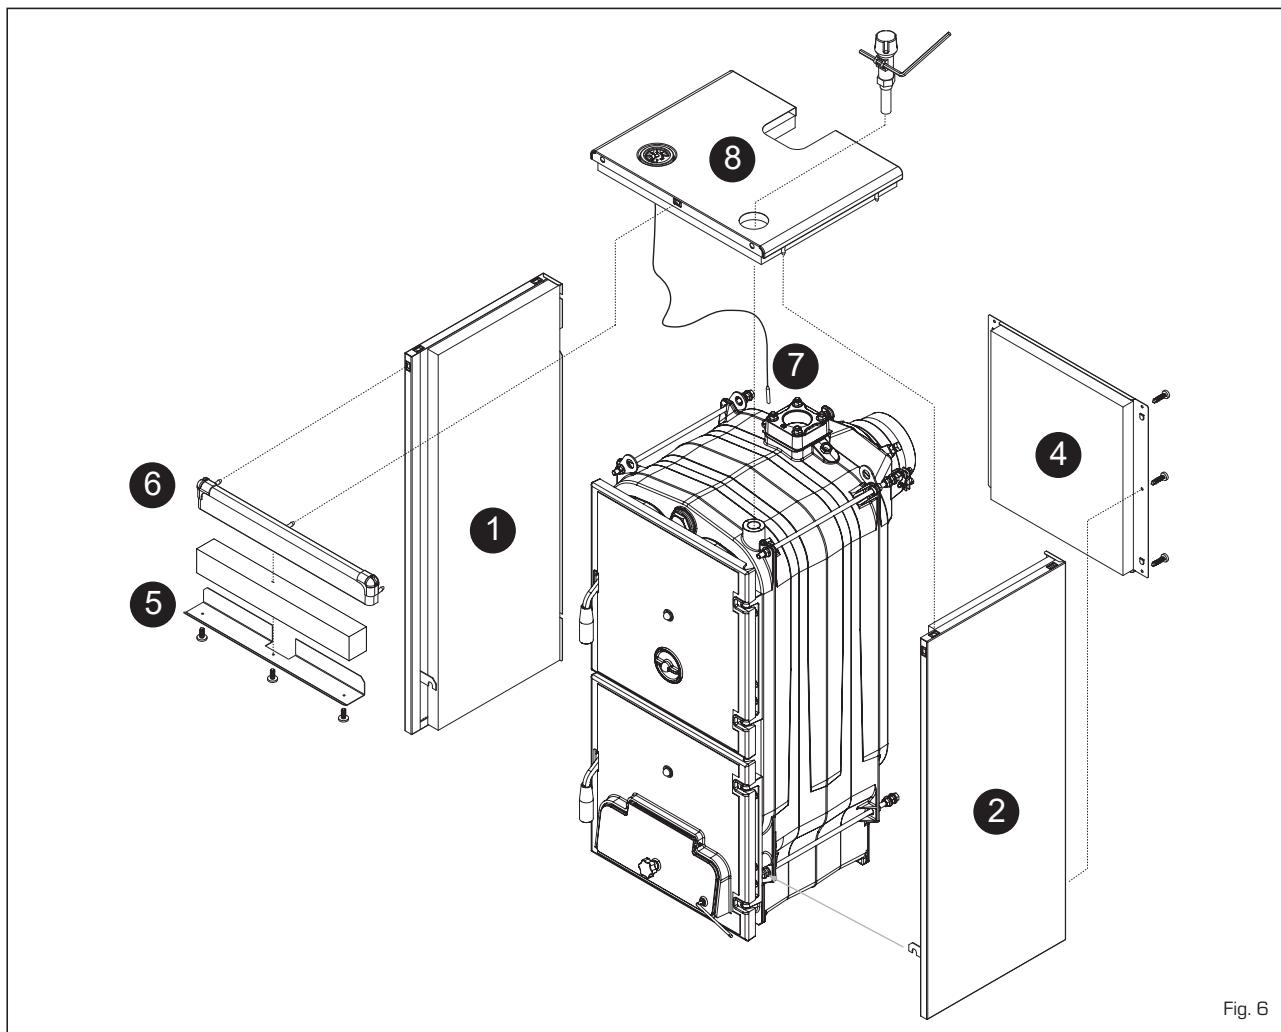

Fig. 6
4.5 ASSEMBLING THE CASING (fig. 6)